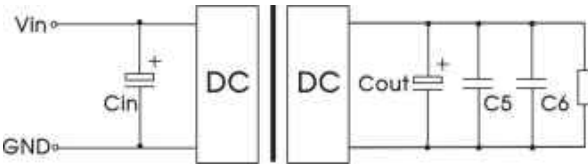

Fig.2
Note: ① Load regulation for 0% -100%load inc reases to ±3%; ② Under 0%-5%load conditions, ripple & noise doesnot exceed 5%Vo. The "Tip and barrel method" is used for ripple and noise test, please refer to Fig. 2. for recommended circuit.
All the DC-DC converters of this series are tested before delivery using the recommended circuit shown in Fig. 2.